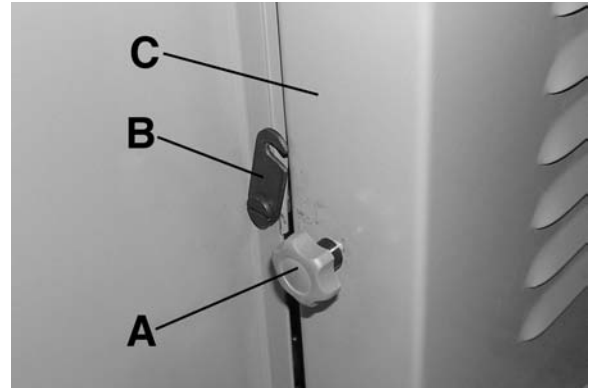

FIGURE 16
2. Loosen knob (A) Fig.16 and pull the handle latch (B) upwards and open rear hinged door (C).